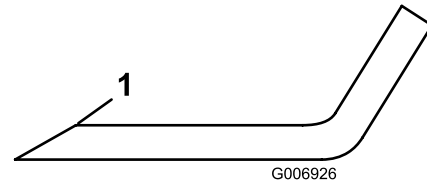

Figure 103
5. Inspect the cutting edges of all blades. Sharpen the cutting edges if they are dull or nicked. Sharpen only the top of the cutting edge and maintain the original cutting angle to make sure that it is sharp (Figure 103).
6. If dull or nicked, sharpen only the top cutting edge while maintaining the original cutting angle (Figure 103).